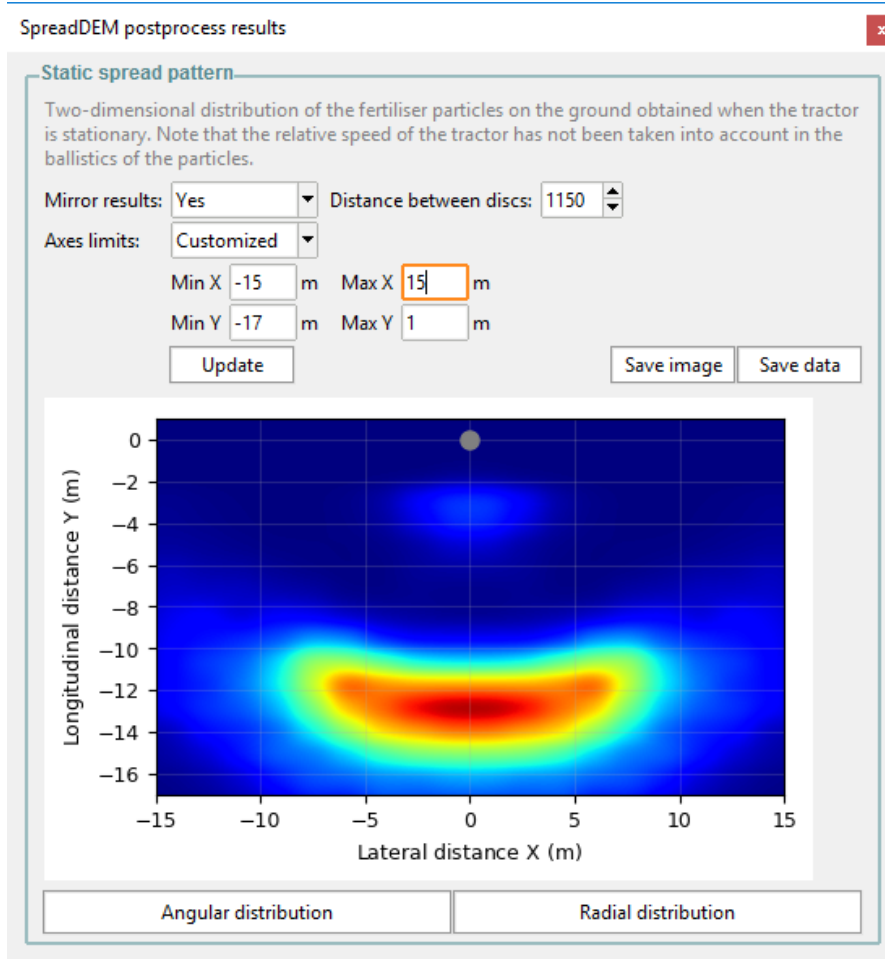

Figure 35. Static spread pattern
- **Static spread pattern:** it shows the distribution of the accumulated fertilizer particles on the ground, usually bean-shaped, considering a static disc position (Figure 35). It can be used to estimate the maximum flying distance and the zones with higher density.